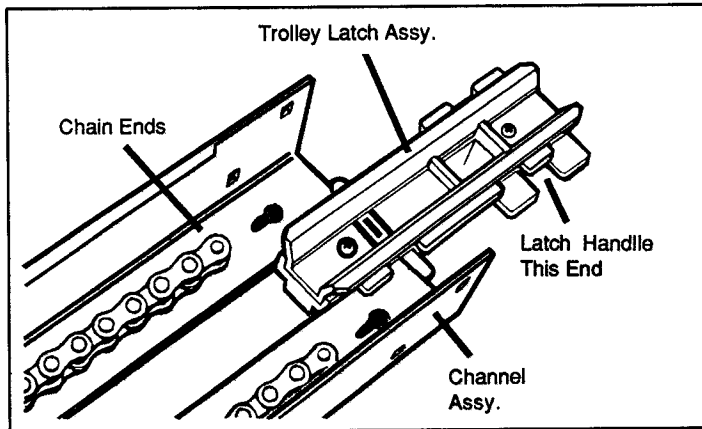

Figure 1
Step 1: Remove trolley latch assembly from parts pack and slide over the channel, flanges in the proper orientation (see Figure 1). Attach keps nut and sems bolt to hole located six inches from end of channel that is attached to the operator head.